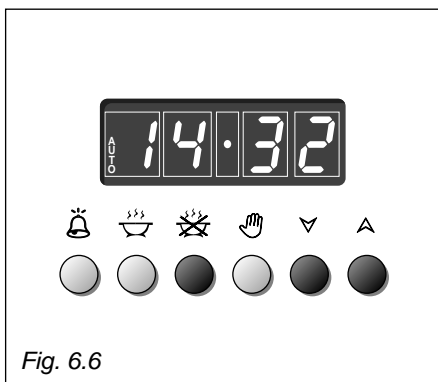

Fig. 6.6
2. Set the end of the cooking time by pressing the  button (the cooking time already added to the clock time will appear), and the  button (fig. 6.6); if you pass the desired time you may get back by pushing the  button.